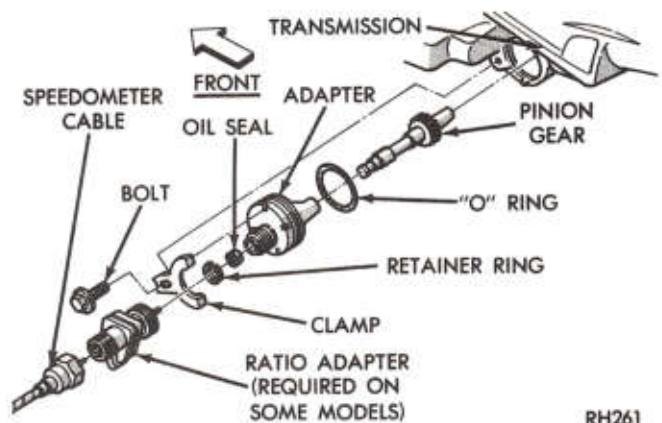
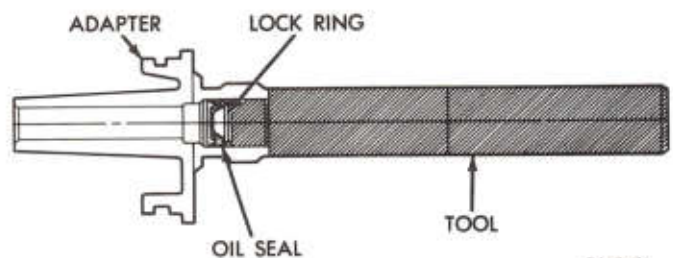

Fig. 2—Speedometer Drive
Fig. 3—Install Speedometer Pinion Seal
- (3) With cable housing connected, carefully work adapter and pinion out of the extension housing.
- (4) If transmission fluid is found in cable housing, replace seal in the adapter (Fig. 2). Start seal and retainer ring in the adapter, then push them into adapter with Tool C-4004 until tool bottoms (Fig. 3).